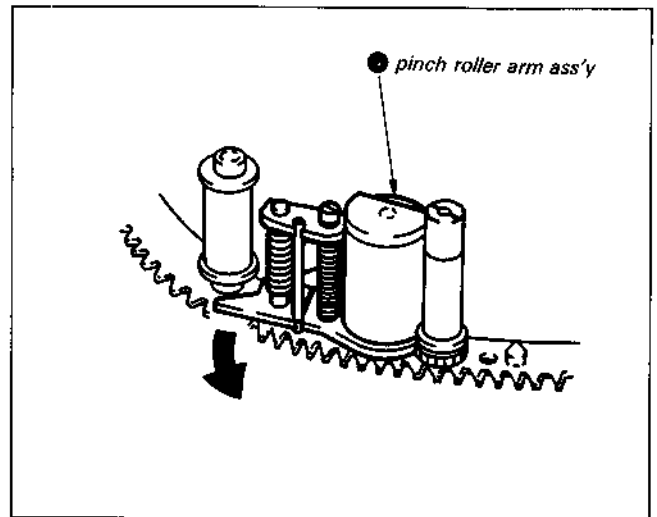

Fig. 7-16.
- 4) Rotate pinch roller arm assembly ① in the direction of arrow. (See Fig. 7-16.)